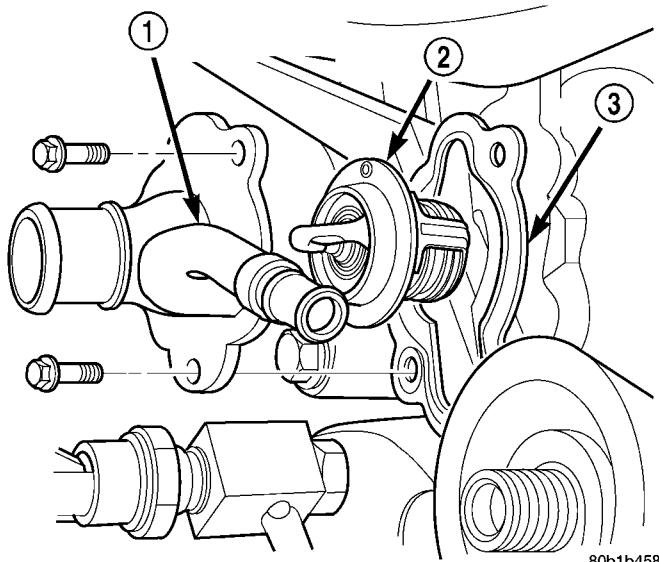

Fig. 10 Thermostat and Housing - 3.5L
- Remove thermostat housing bolts (Fig. 10).
- Install thermostat and housing to cylinder block (Fig. 10). Tighten bolts to 12 N·m (105 in. lbs.).